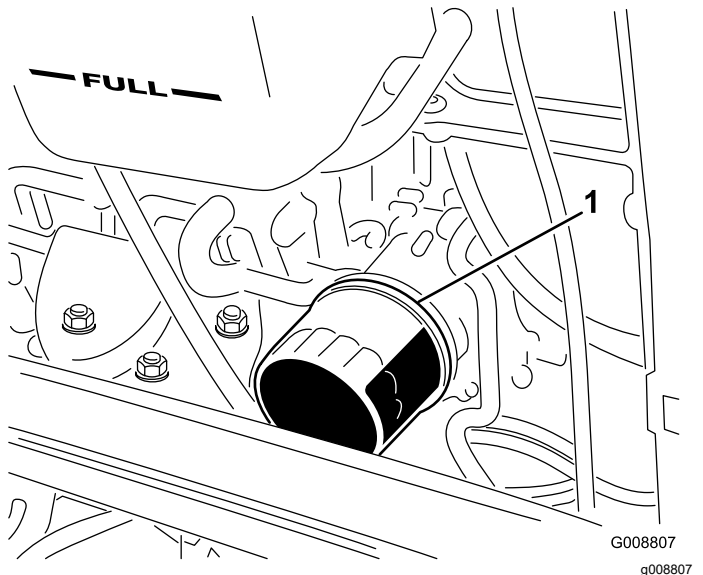

Figure 92
4. Remove the oil filter (Figure 92).